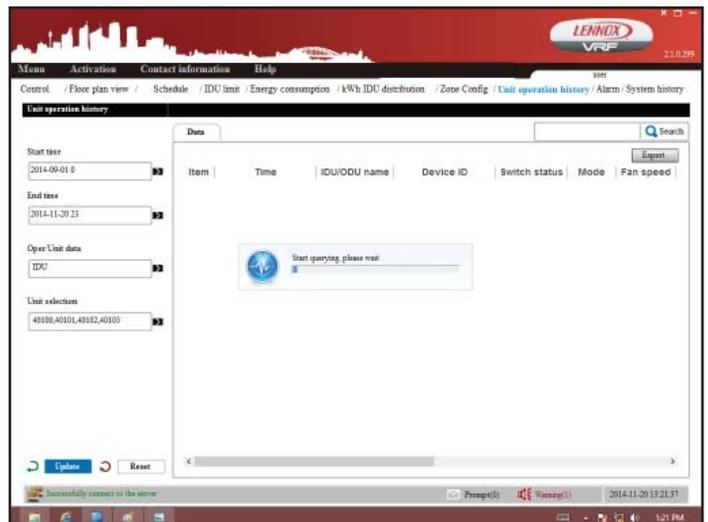

Figure 61. Report Generation Progress Bar
16. Report generation could take several minutes. A status bar will display. See figure 61.